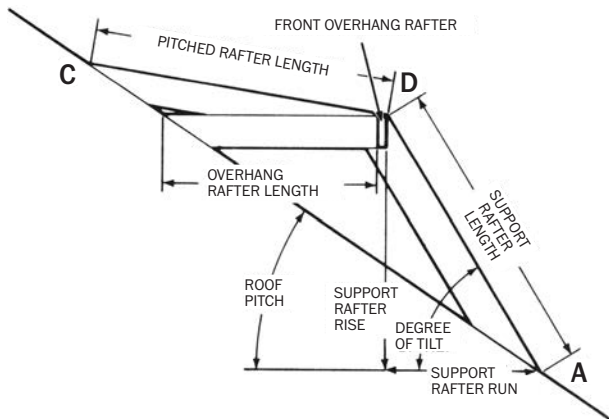

FIG. 21 Rafter Layout For A Solar Panel.
Next we need to find the horizontal overhang length (see Figure 21). It is found by finding the roof run between points A and B and then
STEP 2. RAFTER LAYOUTS: The support rafter bottom cut layout (at point A on Figure 21) will be made similar to a pitched door overhang. Drape the square "T" over the top (or outside) edge of the support rafter and hold the square firmly against the rafter. Then make a mark, using the angle scale, next to the angle that is found by subtracting the roof pitch angle (the roof inch rise in degrees) from the support rafter inch rise angle. In our example, we have $57 \frac{3}{4}^\circ$ (for the 19 inch rise support) minus $33 \frac{3}{4}^\circ$ (for the 8 inch rise roof) or 24° . From this mark, draw a line to the pivot point and you will then have the bottom cut layout. The support rafter top cut layout (at point D in Figure 21) is similar to the bird's mouth layout. First measure up the outside of the rafter the rafter length from the bottom cut and then draw a plumb line using the support rafter inch rise. Now, instead of measuring down the seat depth, measure down the overhang rafter width and make a horizontal line going to the roof edge of the rafter.
The horizontal overhang rafter layout is identical to the layout for a flat roof extension (hence its name). The pitched rafter top cut layout (at point C in Figure 21) is the same as the support rafter bottom cut layout (at point A). For the pitched rafter bottom cut layout (at point D) the following equation is used: